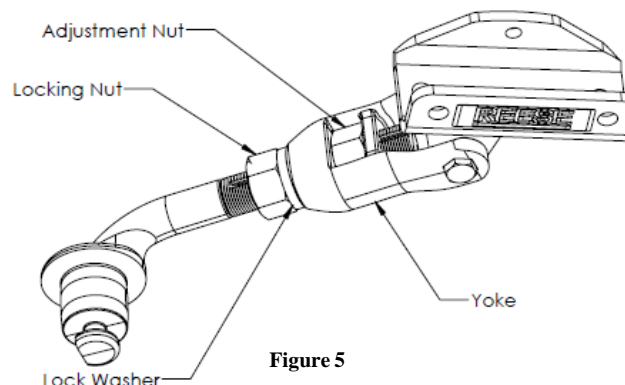
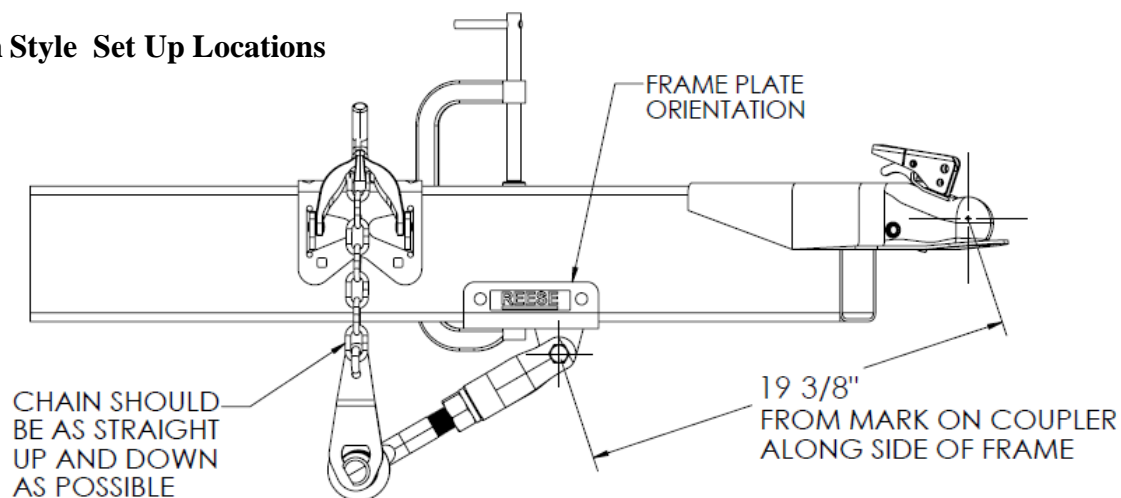
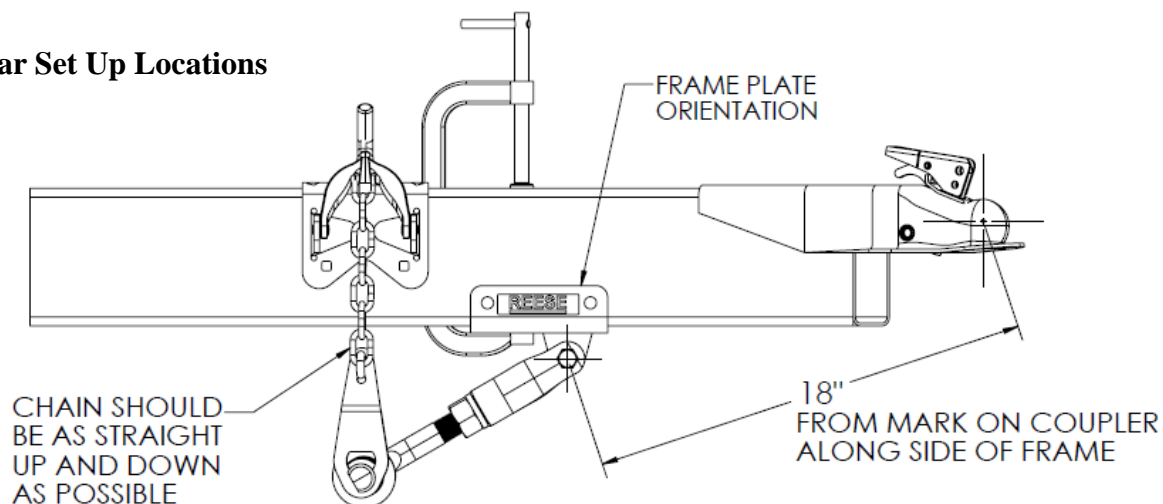
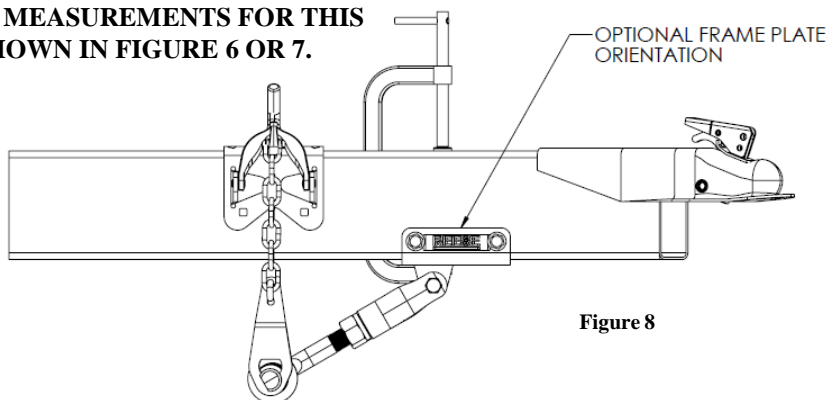

Figure 5
Figure 6 – Cam Arm Approximate Locations for Trunnion Style Weight Distribution kits
Figure 7 – Cam Arm Approximate Location for Round Bar Weight Distribution kits
Figure 8
- Using a C-clamp suitable to accommodate your trailer frame height and the Dual Cam HP frame plate, temporarily clamp the Dual Cam HP cam arm assembly to the trailer frame and Dual Cam HP frame plate as shown in **figure 6 for Trunnion style Weight Distribution kits**, for **Round Bar style Weight Distribution Kits**, follow the dimensions in **figure 7**.
- Position the Frame Plate at the dimension shown for your type Weight Distribution Kit (Trunnion Style or Round Bar). Measure from the mark on the ball coupler to the center of the cam arm pivot bolt as shown in figure 6 or 7. If the frame plate interferes with any part of the trailer frame, the orientation can be changed by switching sides, see figure 8 for optional Frame plate orientation – maintain the same coupler center to cam arm pivot dimension regardless of frame plate orientation.
The Measurements in figures 6 & 7 are guidelines, adjustment of the cam arm length via the adjustment nut (Figure 5) may be required after hookup in later instructions of this manual Cequent Performance Products, Inc. is not responsible for damage incurred due to disregarding any part of this manual.
FOLLOW THE SAME MEASUREMENTS FOR THIS ORIENTATION AS SHOWN IN FIGURE 6 OR 7.
1. If the tow vehicle is not available at the time of installation of the Dual Cam HP system, tighten the locking nut (see figure 5) until the lock washer is fully compressed and continue to the Frame Plate Installation portion of this manual for your specific frame style; Tubular Frame or C-Channel Frame.
3. Direct the customer to the **INSTALLATION WITH TOW VEHICLE PRESENT** portion of this manual for hook-up procedure, and fully explain proper seating of the cam within the spring bar detent. Refer them to their specific Weight Distributing Hitch Instruction manual and be sure they follow the **INITIAL HOOKUP** section of their Weight Distribution Kit Manual for first time hook-up and/or any changes in the variables listed in item 2. of this section occur.